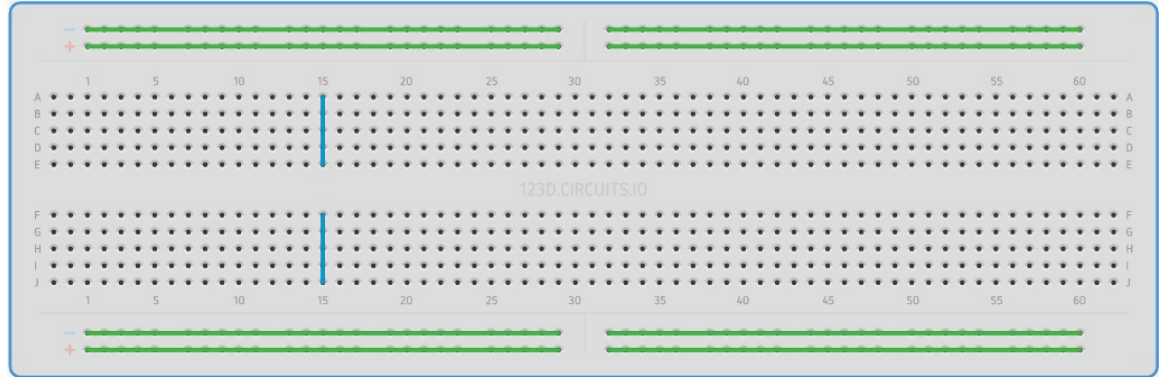

Figure 1.1.1.1: Breadboard
1.1.1. Connect the 5V pin of the Vaman-ESP to an extreme pin of the Breadboard shown in Fig. 1.1.1.1. Let this pin be V_{cc} .